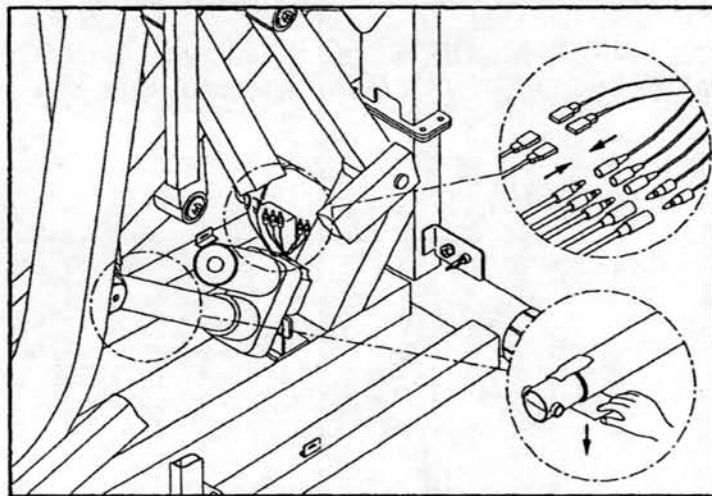

Fig.9-4
2. Unplug five harnesses and two connectors of the VR and tear off the adhesive tape from the FRONT RAISED TUBE. (see fig.9-4)